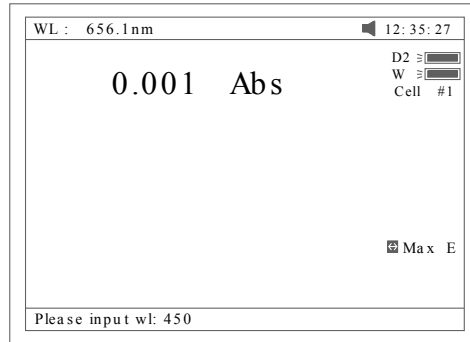

Fig 11
- Use numeric keypad to input wavelength (Fig 11).